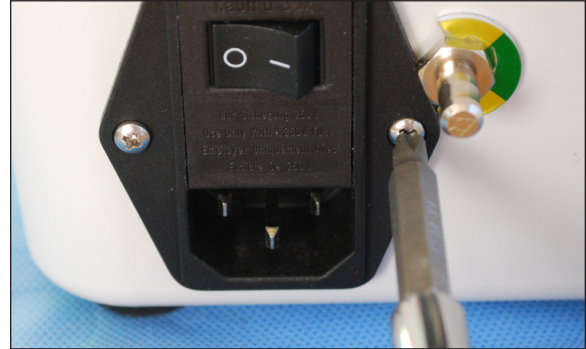

Figure 101 - Step 2 Install power inlet
2. Install new power inlet using two (2) #4-40 x 3/4" screws and two (2) #4-40 Keps nuts (Figure 101).